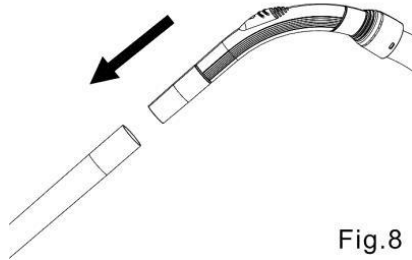

Fig.8
**Step 8:** Insert curved tube of the hose into the adjustable tube (Fig. 8). Make sure the connection is tight.